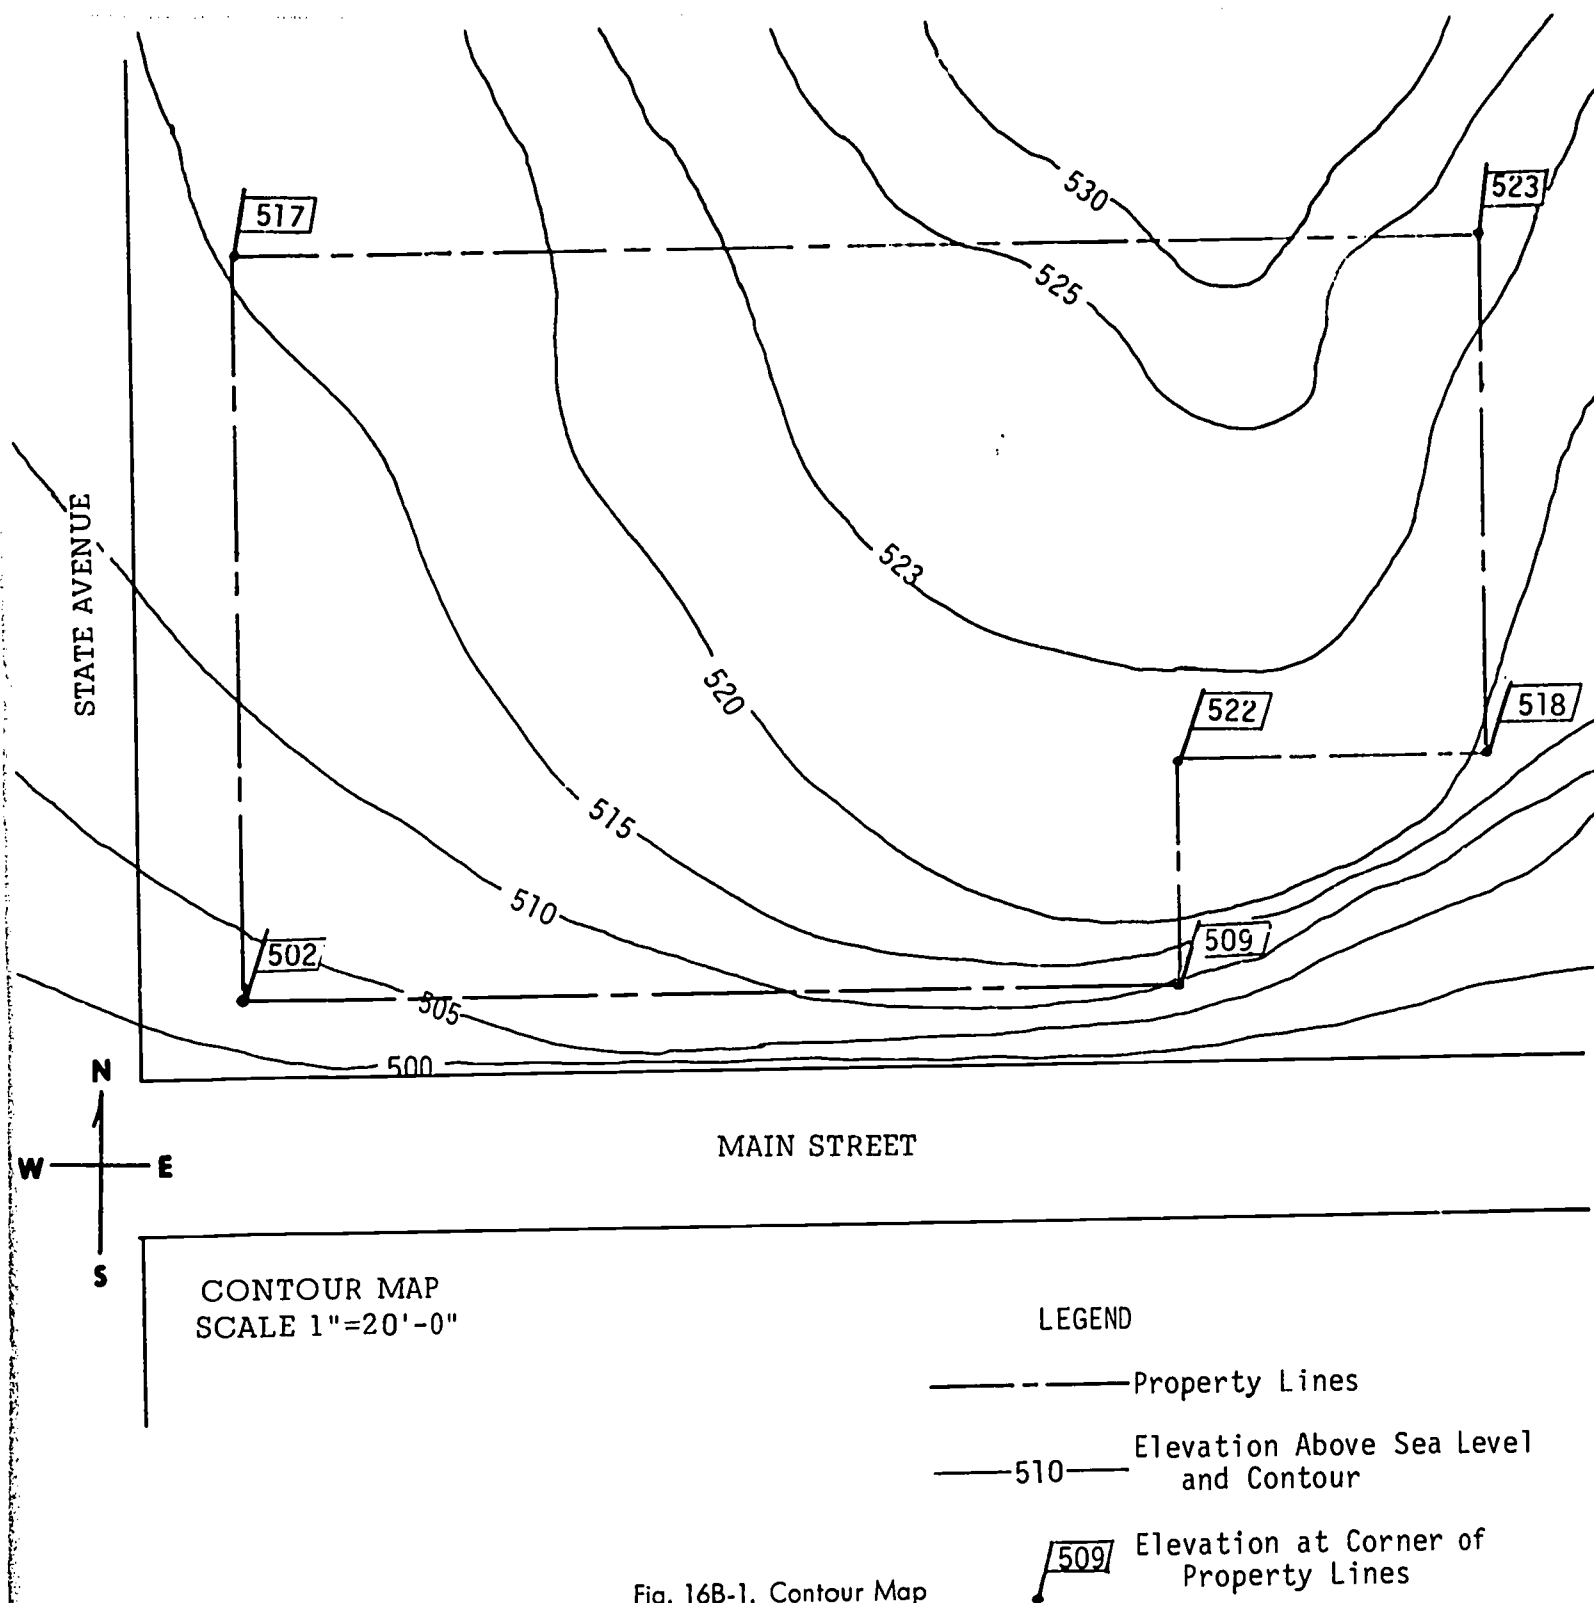

Fig. 16B-1. Contour Map
- Use the following information to help you complete the drawing correctly. See Fig. 16B-1.